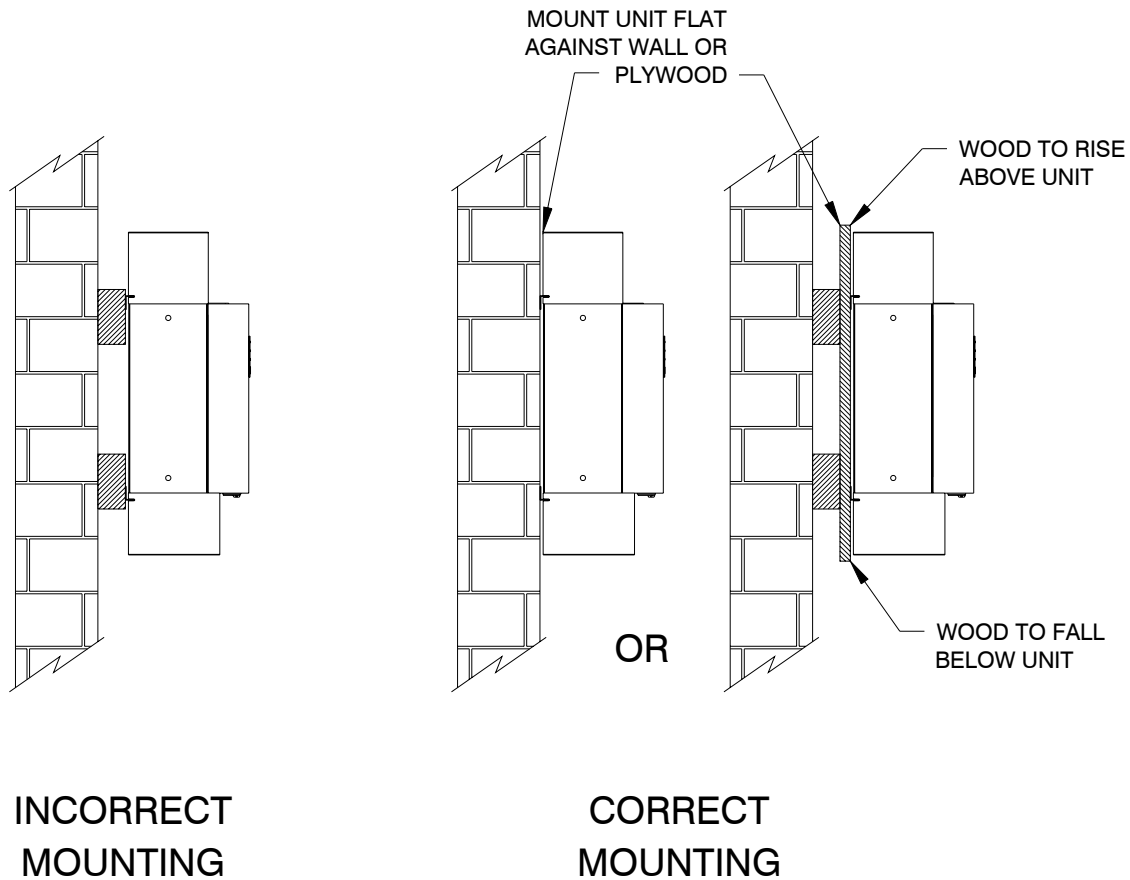

Figure 1D
Step 3: Two wall brackets, with two 1/4" holes each are provided on the unit. **The unit should be secured vertically to a solid wall large enough to cover the complete backside of the unit – See Figure 1D.** Install the top two fasteners (not provided) into the wall, and slide the unit onto them using the slotted holes in the upper brackets. Then install the bottom two fasteners. **Do not** install the unit horizontally. Leave clearance over the unit for lamp removal.